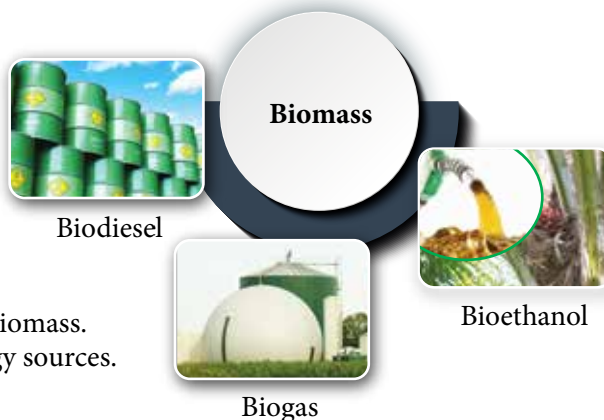

Figure 2.5 Examples of alternative energy sources
- Figure 2.5 shows examples of alternative energy sources.